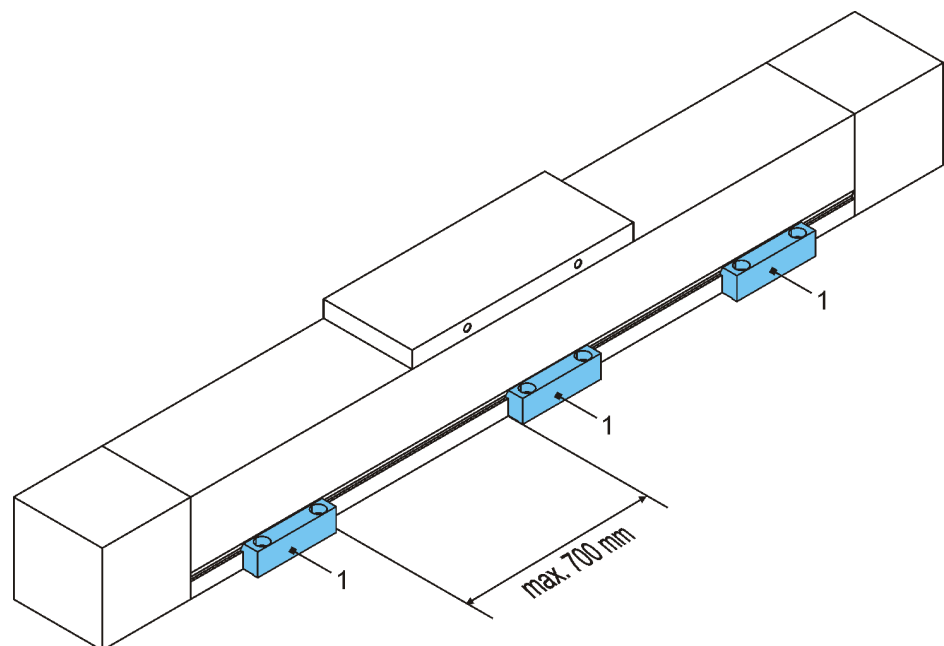

Fig. 2: Mounting brackets (1)
1. Loosely fit the mounting brackets (1) into position (Fig. 2).
3. Screw the mounting brackets (1) into place (for tightening torques refer to Section 3).